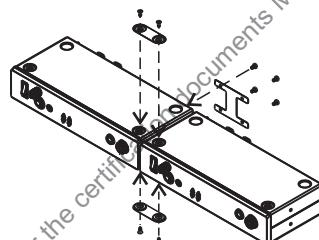

Fig. 6
(B) Insert top and bottom plates to joint two transmitters. Fasten screws. Fig. 6